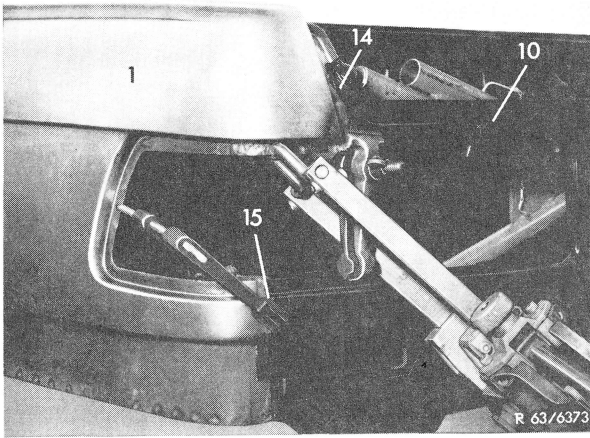

Fig. 10
30 Spot weld rear fender (1) to rear center piece bottom (10) in range of tail lamp (Fig. 10 and 11).
- b) rear center piece bottom (10) on rabet (14) for trunk lid rubber and to joint (15) below tail lamp (Fig. 10 and 11).